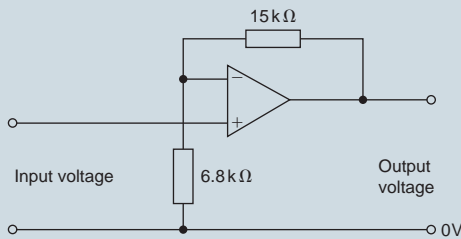

Figure 21.18
1. If the input voltage for the op amp shown in Fig. 21.18 is -0.5 V , determine (a) the voltage gain, (b) the output voltage.